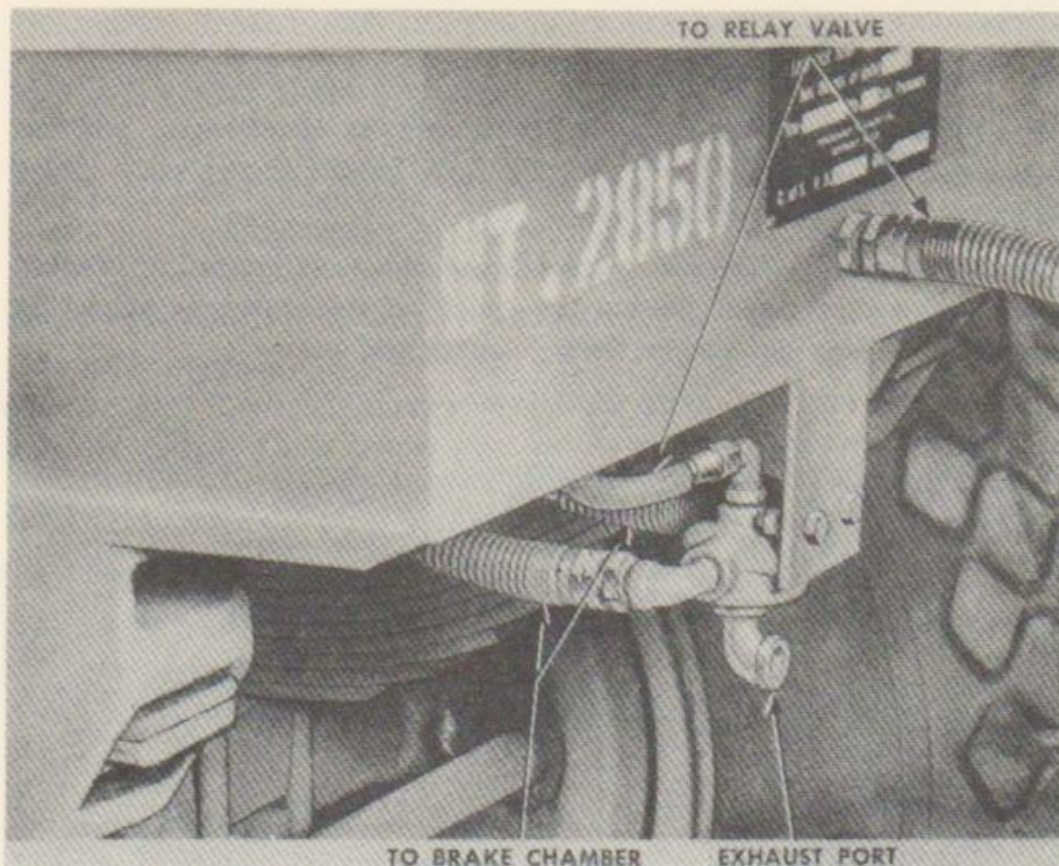

FIGURE 31. QUICK RELEASE VALVE MOUNTED ON DOLLY
b. Removal (fig. 31). Remove nuts from connector assembly. Remove two nuts, lock washers and cap screws, holding quick release valve to bracket.